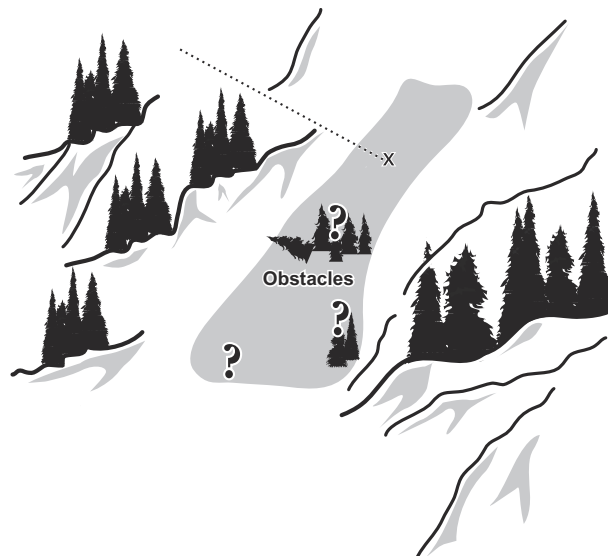

Figure 6-17. Suspected Search Areas Near Obstacles and Runout Zone.
- Determine if all victims are accounted for. If some victims are still missing, mark the locations of clues found on the surface and spot probe around them. Additional likely areas of burial include areas uphill of trees or rocks, in depressions, and in the runout zone, as depicted in figure 6-17.